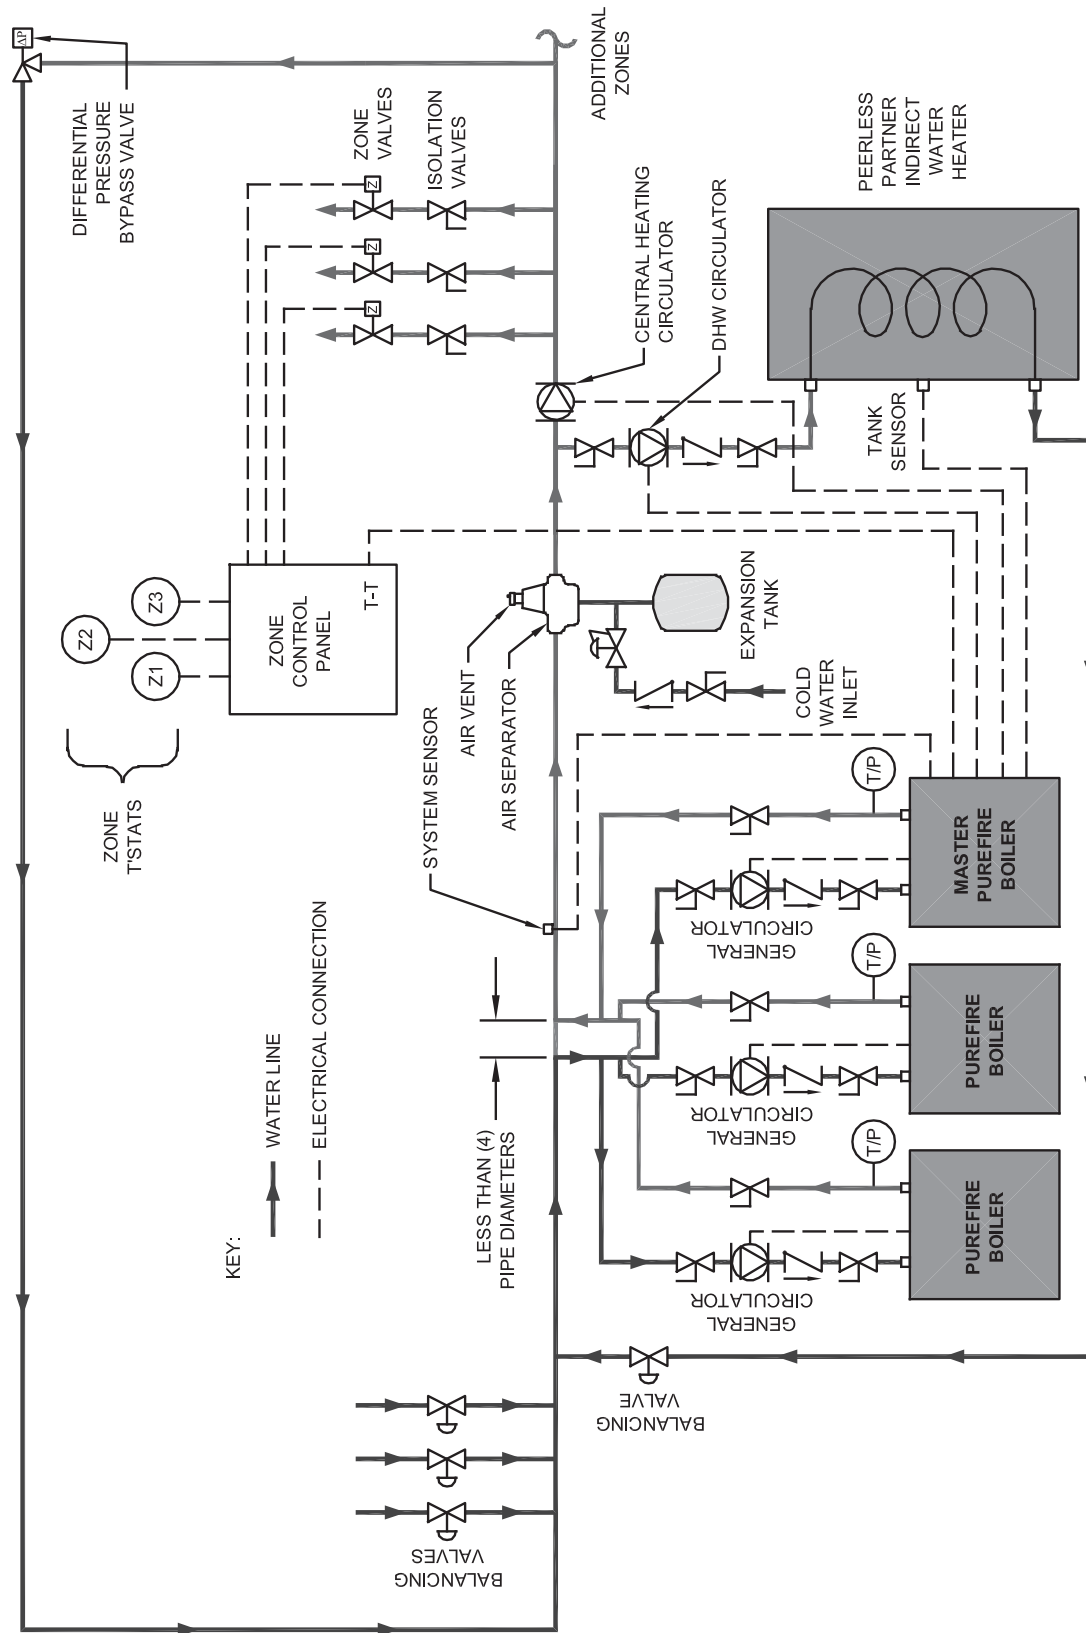

Figure 8.8: Multiple Boiler (Cascade) Piping / Electrical Connections for Systems with Zone Valves
- Figure 8.8 shows a typical system which uses a CH circulator, a DHW circulator and zone valves to distribute the heating load to the building.